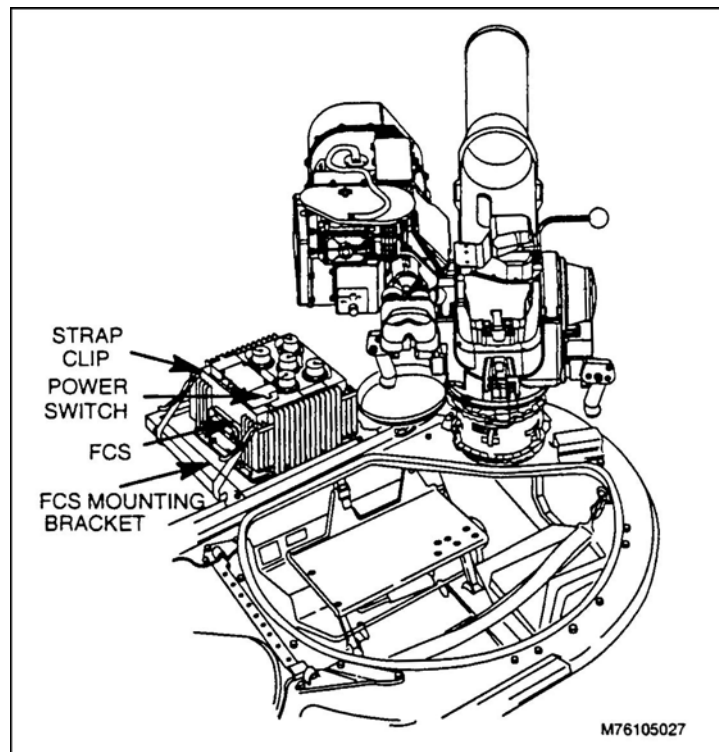

Figure 16. FCS mounted on FCS mounting bracket.
5. Mount FCS in FCS mounting bracket on the weapon station (Figure 16).